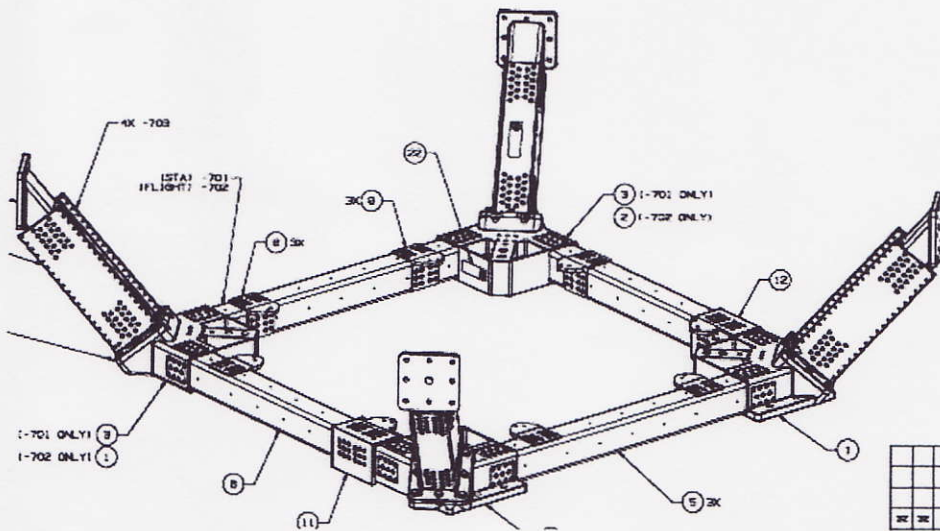

Figure 2
4. Using 4 straps, strap the LUSS around the four tubes, item 5 and 6 as seen in Figure 2, and attach the other ends of the straps to the crane. Straps should have a WLL of 750 lb each, minimum.